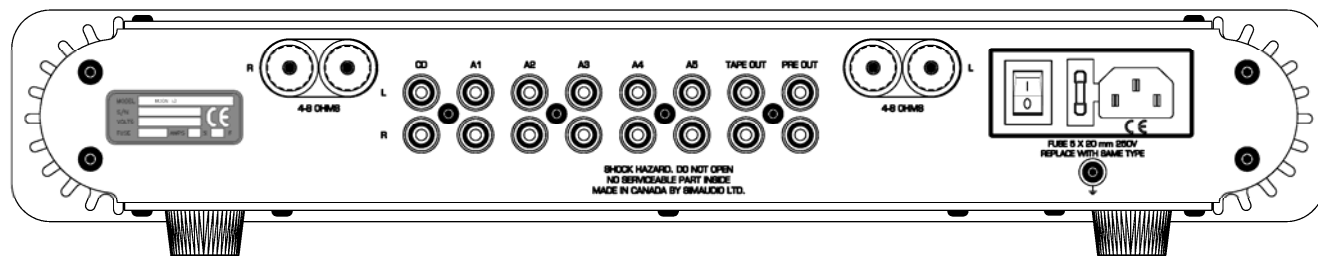

Figure 2: MOON i-3 Rear panel
The rear panel will look similar to Figure 2 (above). There are five (5) pairs of single-ended inputs on RCA connectors labeled CD, A1, A2, A3, A4 and A5. The left channel inputs are located on top and the corresponding right channel inputs are located directly below. The A4 input, as previously mentioned, bypasses the gain stage and is intended to be used with a component, such as a home theater processor, that has its own volume/gain control.